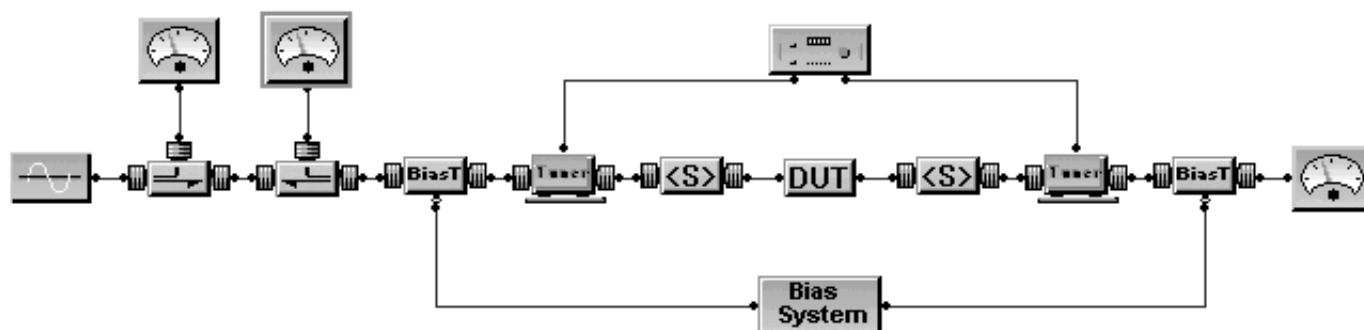

Figure 5-6. Typical Setup for Performing Power Measurements
5.4.1 The power measurement system should typically be set up per Figure 5-6 with a thru in place of the DUT. The available power at the input of the source tuner will be measured over a range of programmed power levels at each frequency. If the setup includes the optional input and/or reflection power meters and couplers, the respective coupling values will be measured.